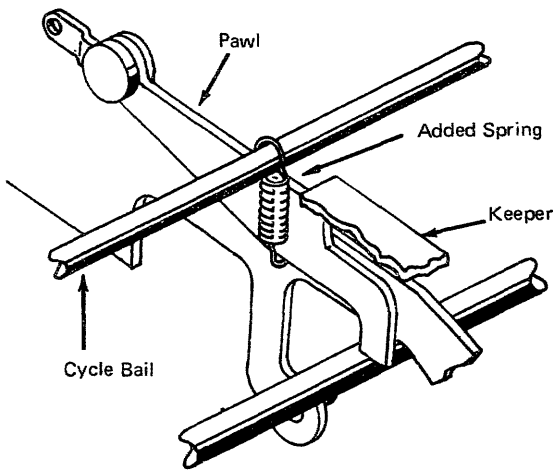

Figure 1-15. Cycle-Bail Damper Spring
- 12.2 Add a light spring (Figure 1-15) to reduce cycle bail bouncing.